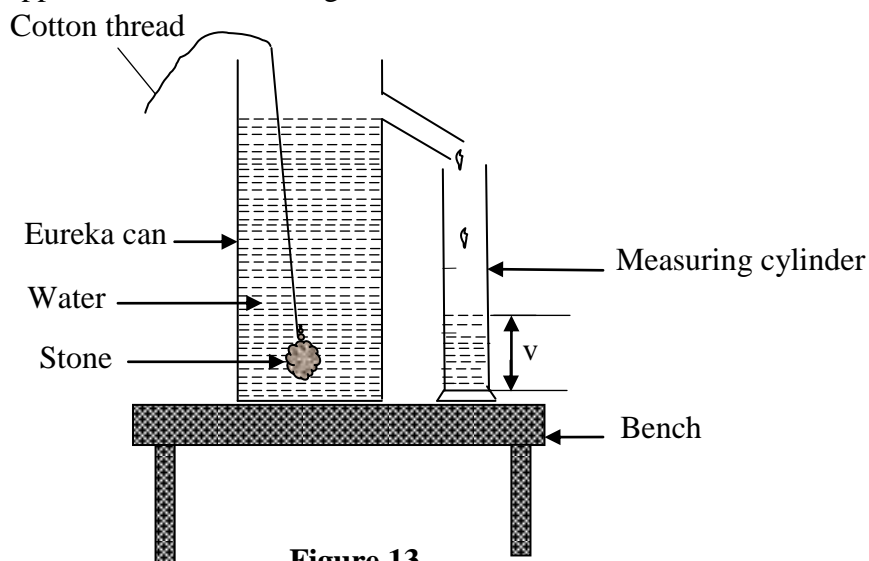

Figure 13
- (e) Set the apparatus as shown in Figure 13: